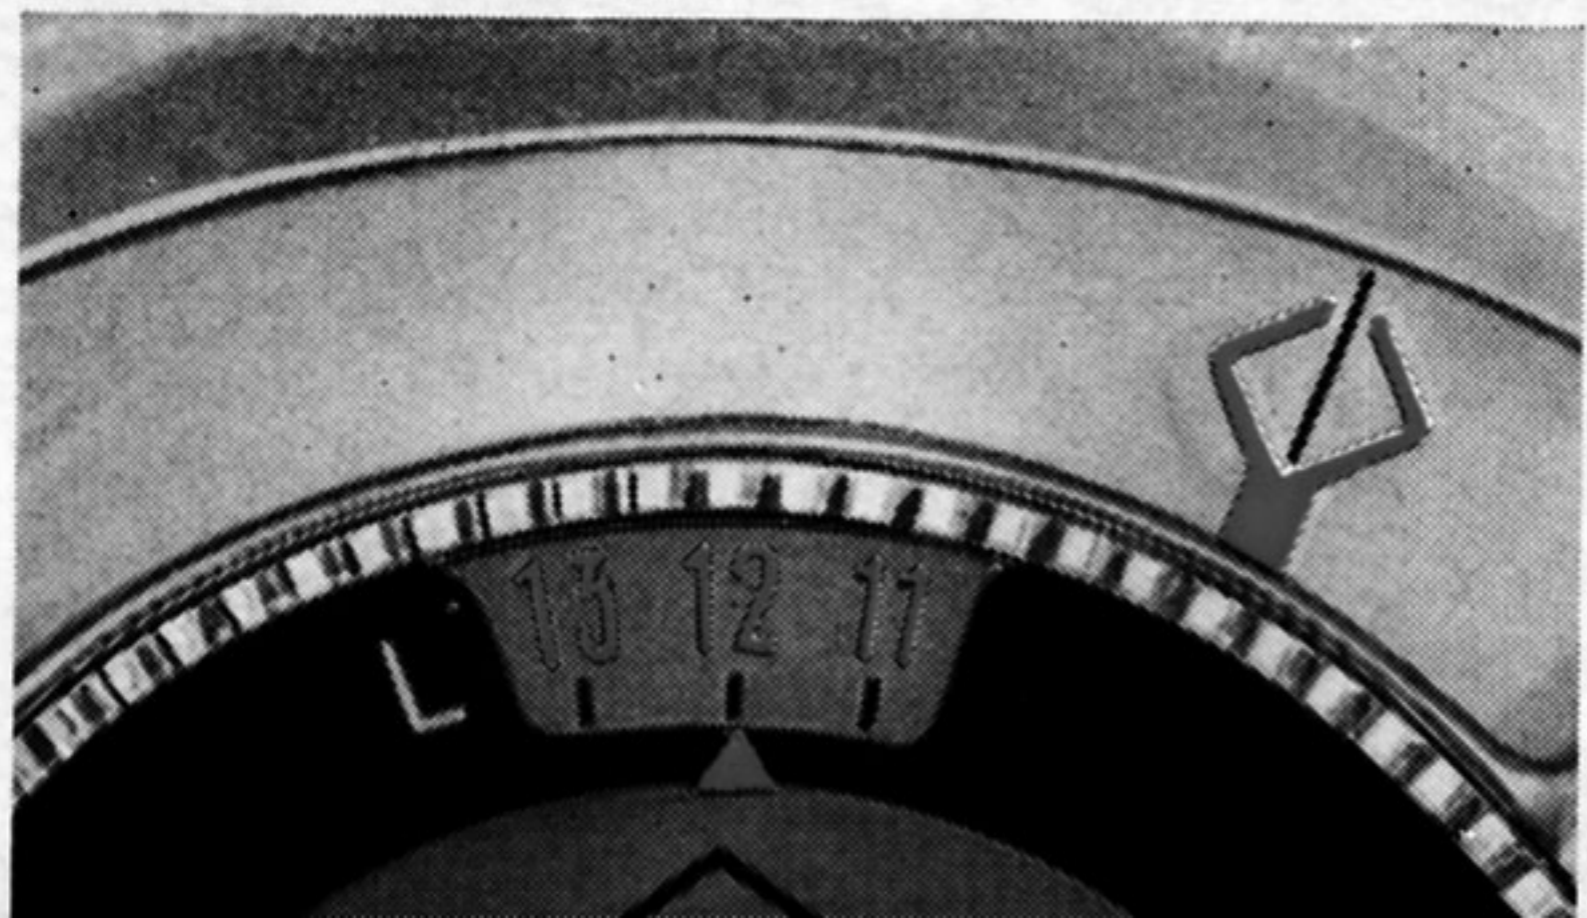

Fig. 5
The incident light generates an electric current which causes a deflection of the exposure pointer. This pointer deflection will be small with weak light, and great with strong light. The exposure pointer must now be centralised in the setting frame which is also visible in the scale window (see fig. 5). To do this the outer milled ring (9) (see fig. 1) is turned with the thumb.